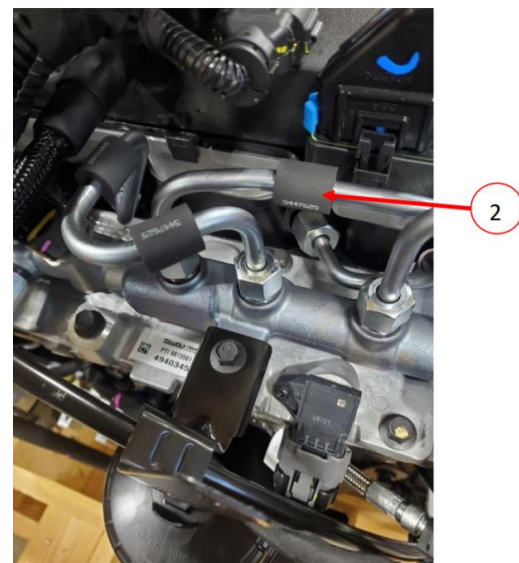

Figure 30 – Fuel Line Isolator
40. If not already installed, use the provided fuel line isolator and install on rail to injector line #4 as shown (2) (Figure 30).